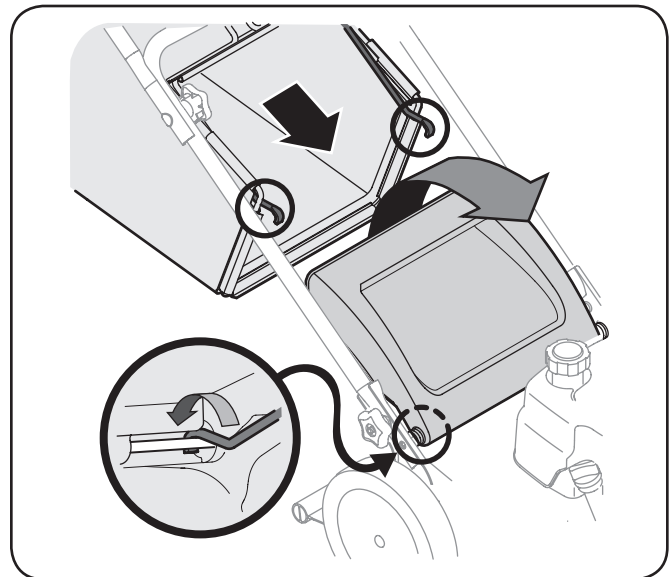

Figure 3-6
- b. Place grass catcher on the pivot rod. Let go of discharge door so that it rests on the grass catcher. See Fig. 3-6.